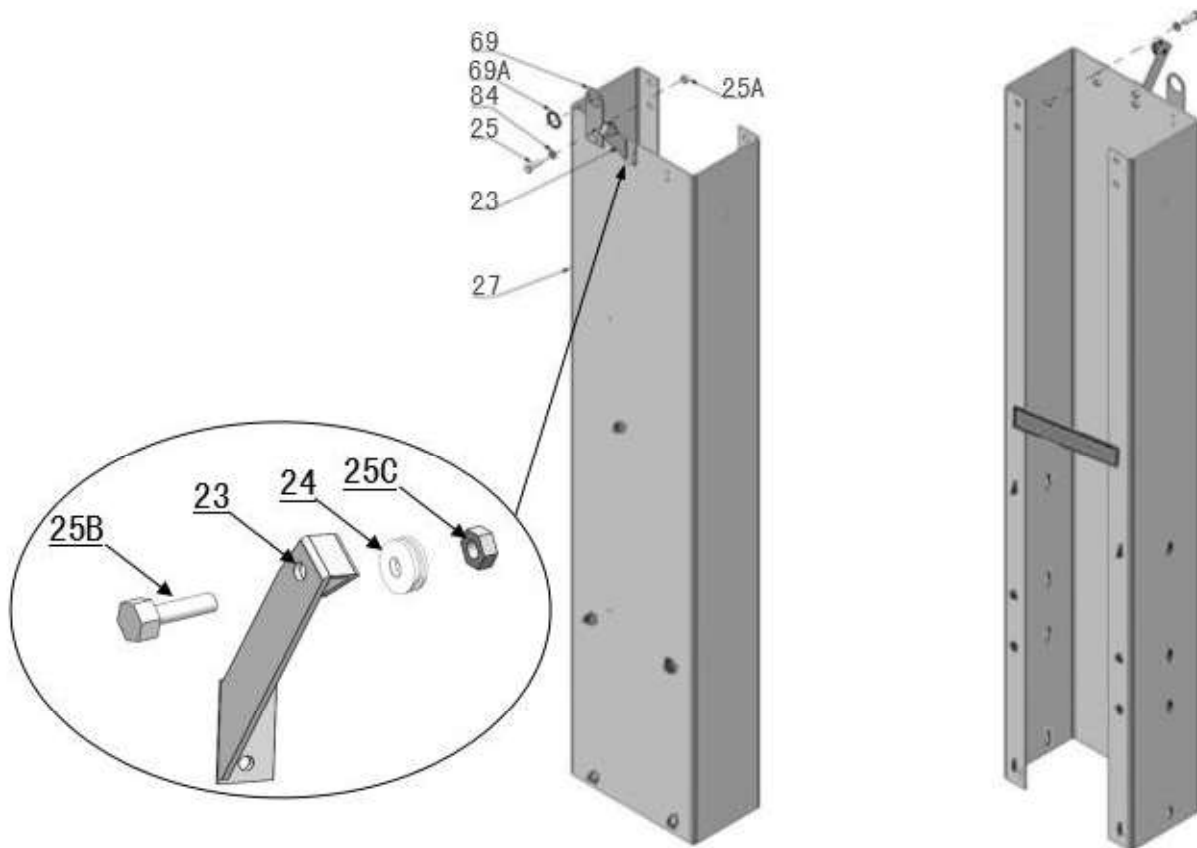

Fig. 11
5. Open the bag 1 of parts and check the parts according to parts box list (See Fig. 11).